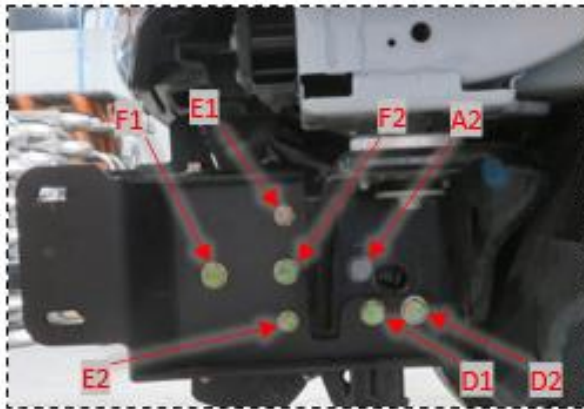

Figure 2b: Submounts installation (driver side view)
2. Install Submounts with provided Fasteners D1, D2 (M16) and E1, E2 (M12) as shown in Figures 2b and 2c.
- **For truck with OEM tow loops**, install with provided Fasteners F1, F2 (M16) and Spacers, see Figures 2b and 2d. Spacers should be placed between OEM tow loops and Submounts. Herd has found the best arrangement to be placing one 1/16" and one 1/8" Spacer. You may need to find the best combination of Spacers for your truck.
- **For truck without OEM tow loops**, install Pipes F1 and F2 with provided Fasteners F1 and F2 (M16) and Spacers, see Figure 2b and 2e. The Pipe F1 and Spacers should be placed between the Submounts. Herd has found the best arrangement to be placing one 1/16" and one 1/8" Spacer. You may need to find the best combination of Spacers for your truck. NOTE: Grind the Pipe F2 as needed to ensure it can fit into the truck frame.